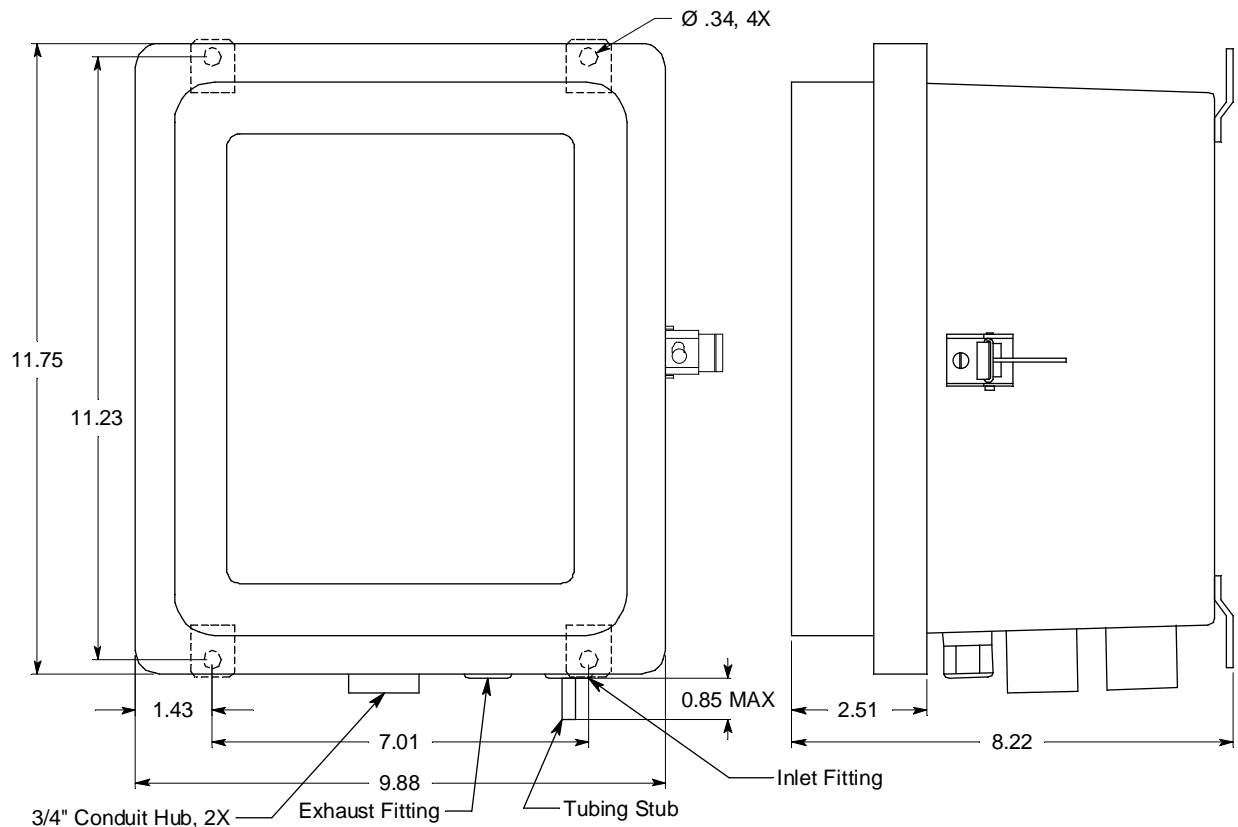

Figure 3: Outline & Mounting Dimensions
- Use four 1/4" screws through the mounting feet to mount the GD-K77D4X-XX to a vertical surface. See Figure 3 for the mounting dimensions.